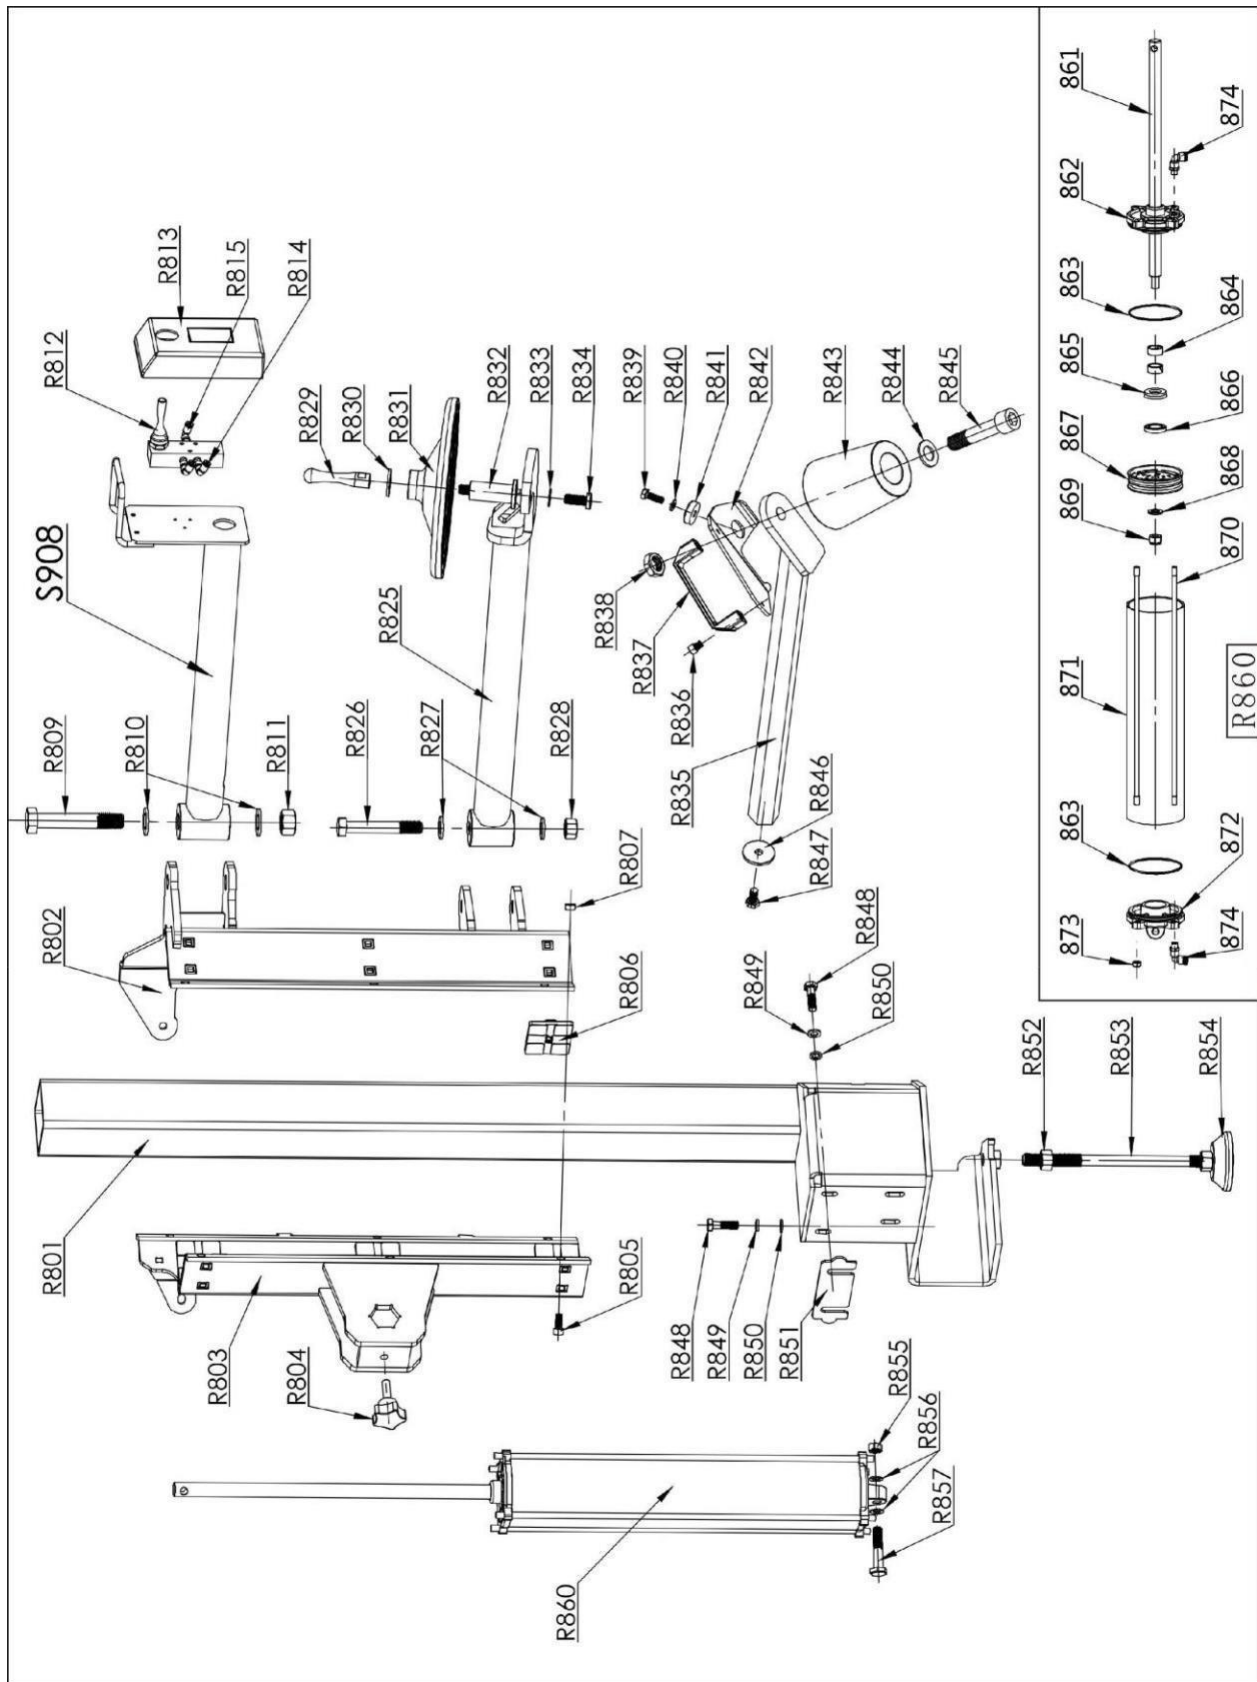

Fig.15
1011814 main body② (Fig.15)
**Remark : Other spare parts in Fig. 15, please refer to 《①spare part list》 .**